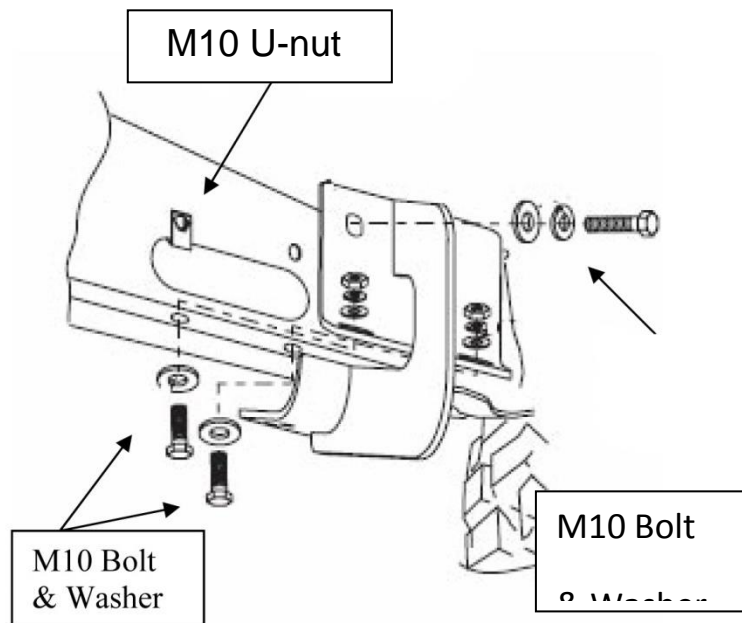

Figure 2. Driver Side – Front Bracket
2. Install driver side front and rear bracket as shown. Figure 2. 3.